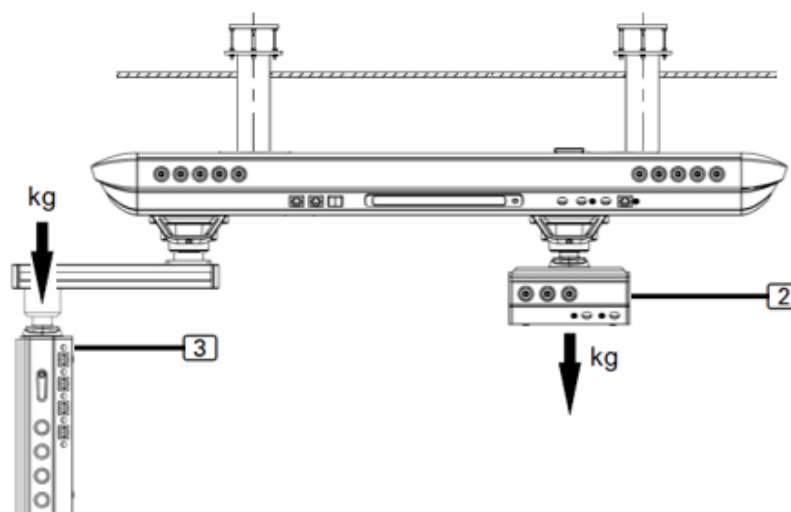

Fig.16 Load application point on service heads
The maximum load capacity is the maximum weight that the suspended headboard can support. The example shown in figure 16 shows a configuration with an extension arm (3) and a horizontal column without an extension arm (2).